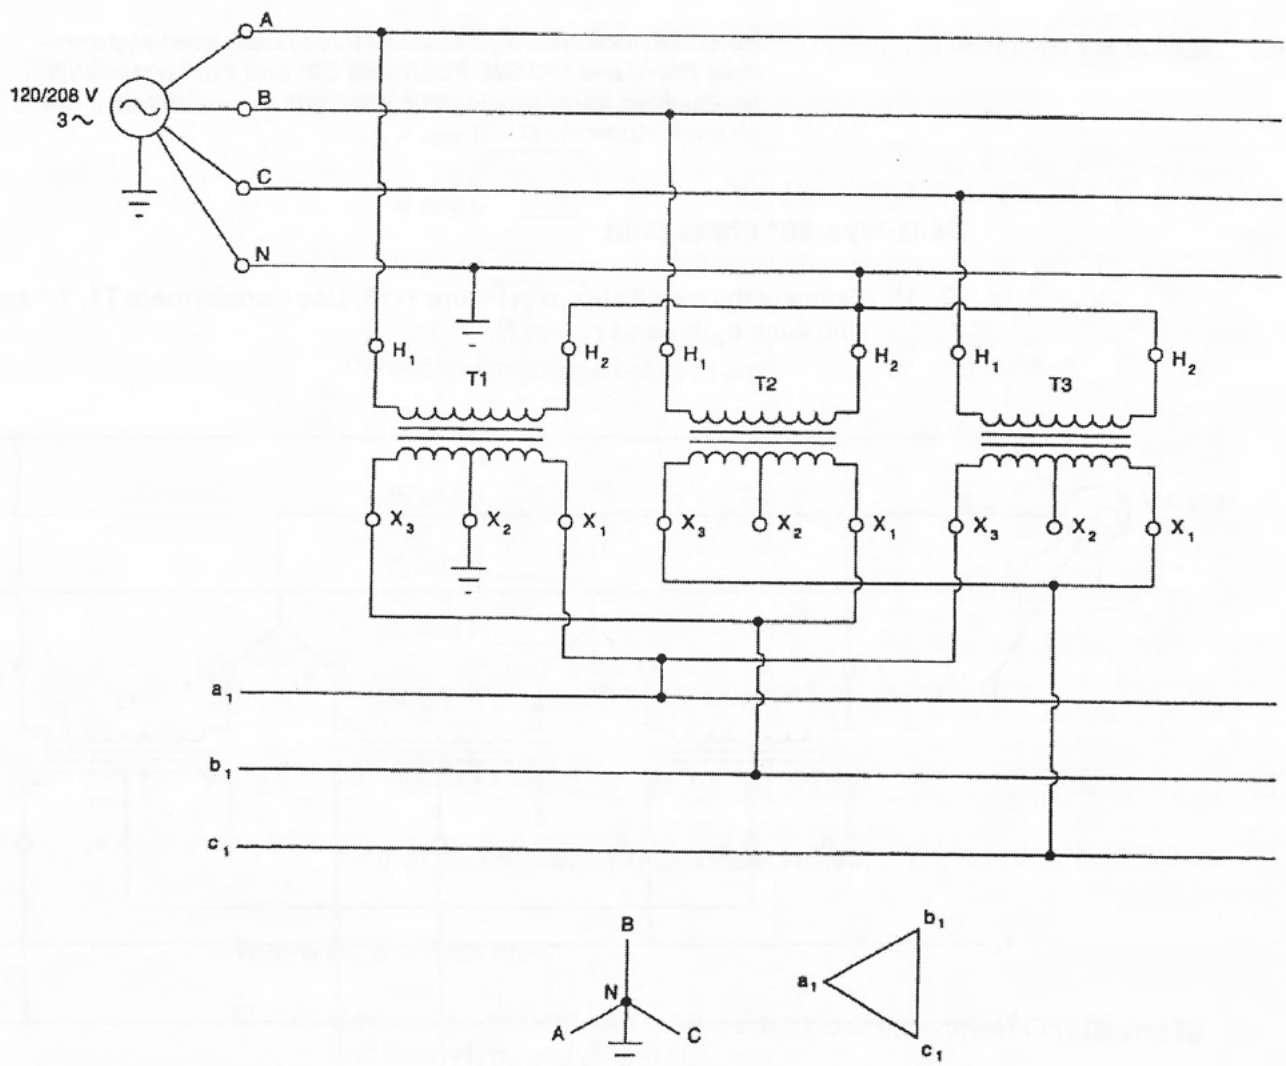

Figure 1-14. Wye-delta, 30° phase shift, grounded-Y primary.
- ☐ 17. Connect the circuit shown in Figure 1-14. Use transformers T1, T2 and T3 and lines a_1 , b_1 , and c_1 .